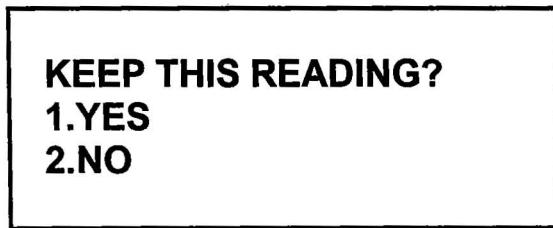

Figure 14-12. Keep Transformer Ratio Reading Menu
- 2. Origin:** The menu will appear if the user selects “YES” from the “KEEP THIS READING” menu (Figure 14-12).
- 3. Action Option:** Select key 1 to append this reading to other test results in scratch pad memory. Select key 2 to store this reading in scratch patch memory only.